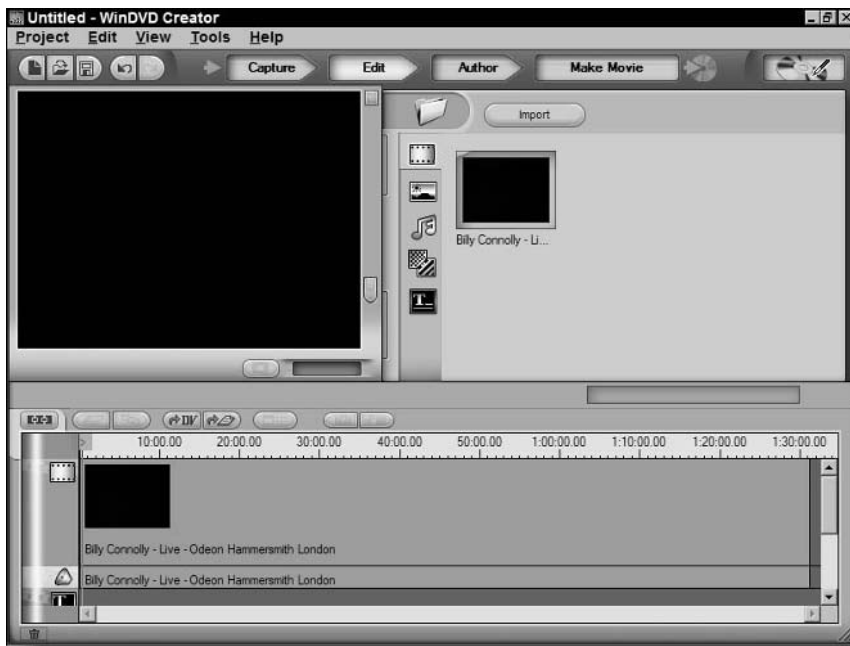

FIGURE 3-21: InterVideo WinDVD Creator 2
- **InterVideo WinDVD Creator 2**— With a user interface (Figure 3-21) similar to that of Pinnacle Studio, we were prepared to like WinDVD Creator as much as we like WinDVD, which is our favorite DVD player software. Our initial work with it went well, but after we discovered it crashed regularly on files we'd pulled in with another manufacturer's video capture card and codec, we gave up. If you can be sure you'll never need a foreign codec, you might like WinDVD Creator. You can find the software at www.intervideo.com/jsp/WinDVDCreator_Profile.jsp.